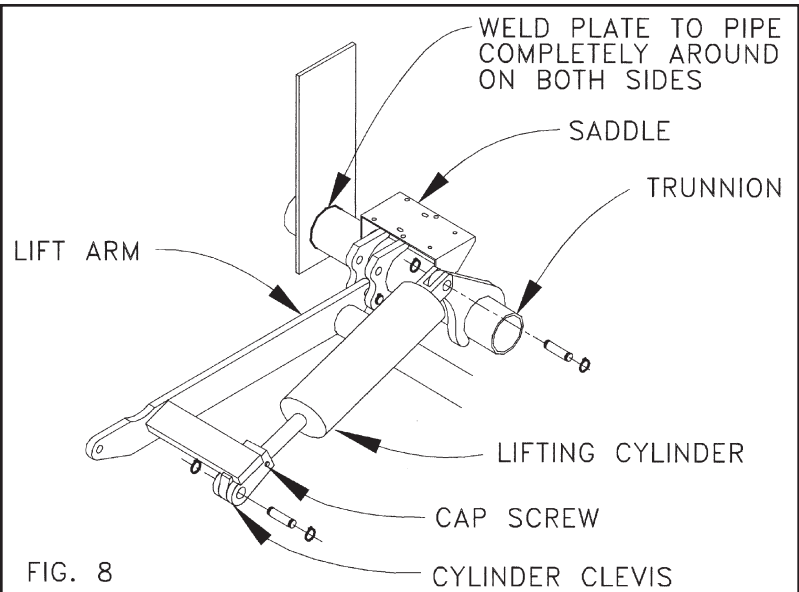

FIG. 8
- Step 8** Angle mounting plates slightly toward the cab of the vehicle as shown in figure 5. Attach mounting plates to truck frame by means of grade 8 bolts or by .18" welds all around. Weld mounting plates to the trunnion pipe with welds completely around the pipe on both sides of each plate. See figure 8.
Step 10 Connect butt end of lifting cylinder to trunnion lug using parts from SA bag marked 3630040 or 3630050. See figure 8.
Step 11 With the cylinder rod fully retracted into the cylinder housing, loosen the cap screw on the side of the cylinder clevis. Screw clevis out until holes in clevis line up with holes in lift arm's cylinder lug. See figure 8.